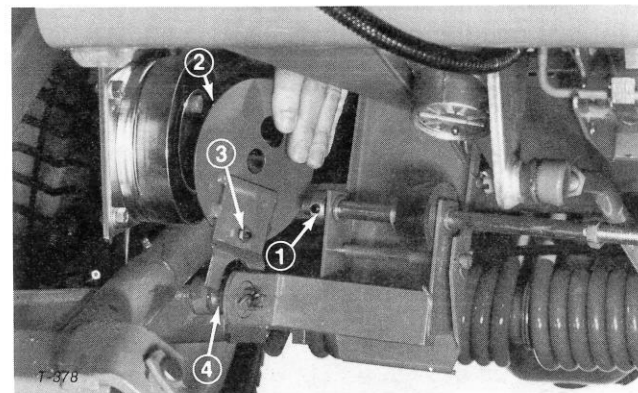

Figure 24
11. Slide shaft through remaining traction pedal bracket hole and install collar on shaft (Fig. 24). Install and tighten jam nut on set screw in clutch plate (Fig. 24).